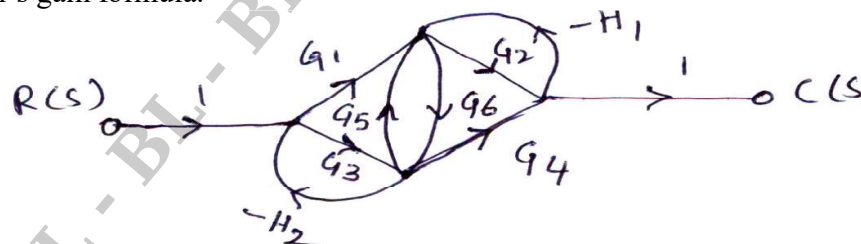

Fig. Q 4(b)
b. For the signal flow graph shown in Fig. Q 4(b). Determine the transfer function $\frac{C(S)}{R(S)}$ using Mason's gain formula. (08 Marks)